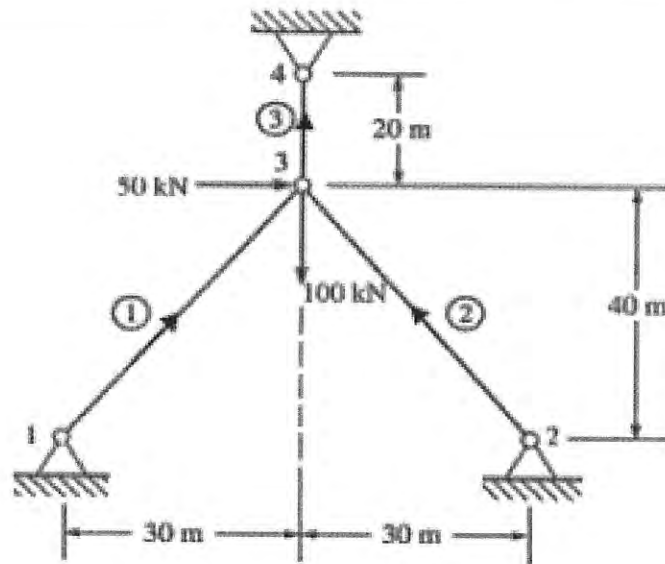

Figure Q1
Q1) FIGURE Q1 shows a system of truss with three (3) elements. Node 1, 2 and 4 is pin connected, whilst node 3 is given force of 50 kN and 100 kN as shown. Given area, $A = 50 \times 10^{-4} \text{ m}^2$ and Young Modulus, $E = 2 \times 10^{11} \text{ N/m}^2$ for all elements.